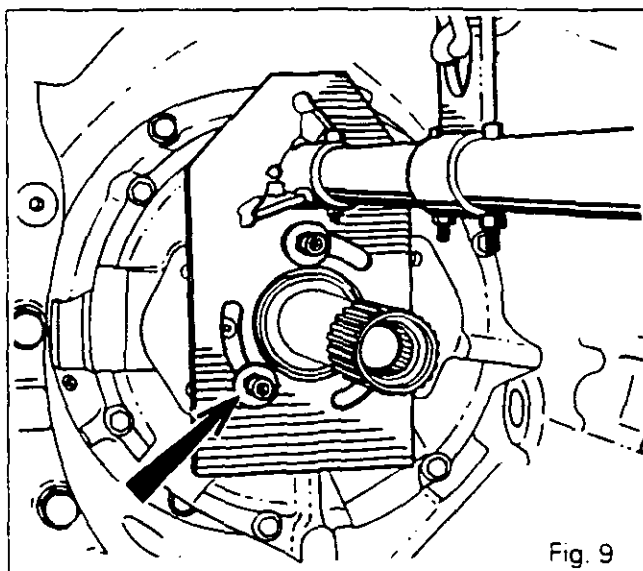

Fig. 9
6. Remove the clutch slave cylinder(s). Fit the lifting bracket 3376883 M1, using bolts of the correct length (Fig.9).